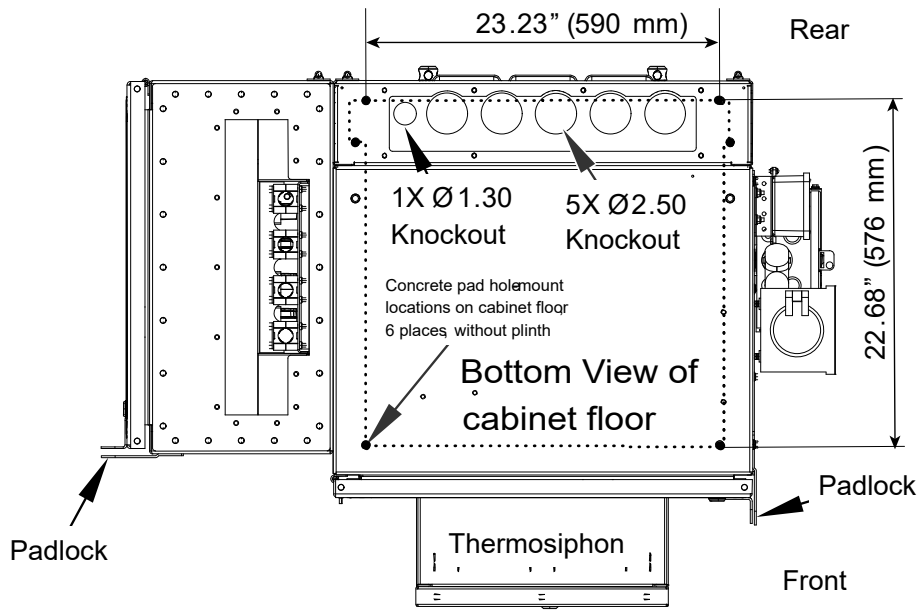

Figure 21. Mounting Footprint for MSO AIO Cabinet
1. Fasten cabinet to a concrete pad or vault from cabinet pad mount holes per Figure 13 and Figure 21. CommScope requires use of eight mounting holes.